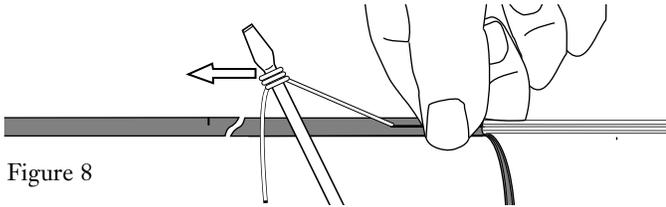

Figure 8
4.7 Wrap the rip cord around the shaft of a screwdriver which will serve as a handle. Pull the rip cord through the sheath back to the marked strip length (Figure 8).